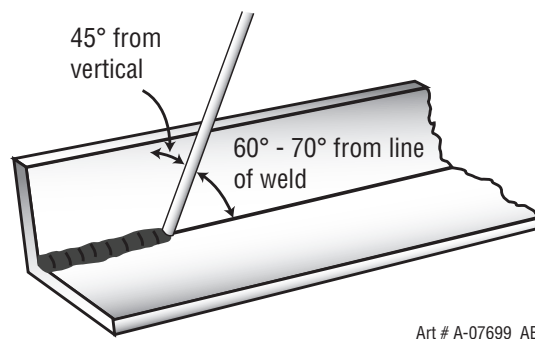
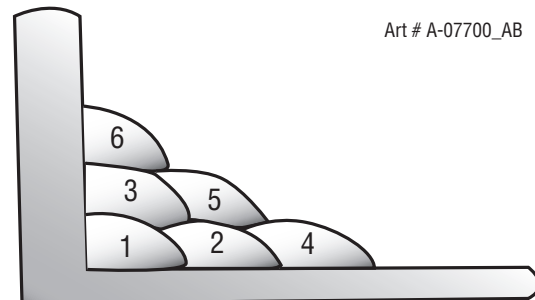

Figure 4-15: Electrode position for HV fillet weld
Figure 4-16: Multi-runs in HV fillet weld
A piece of angle iron is a suitable specimen with which to begin, or two lengths of strip steel may be tacked together at right angles. Using a 1/8" (3.2mm) E7014 electrode at 120 amps, position angle iron with one leg horizontal and the other vertical. This is known as a horizontal-vertical (HV) fillet. Strike the arc and immediately bring the electrode to a position perpendicular to the line of the fillet and about 45° from the vertical. Some electrodes require to be sloped about 20° away from the perpendicular position to prevent slag from running ahead of the weld. Refer to Figure 4-15. Do not attempt to build up much larger than 1/4" (6.4mm) width with a 1/8" (3.2mm) electrode, otherwise the weld metal tends to sag towards the base, and undercut forms on the vertical leg. Multi-runs can be made as shown in Figure 4-16. Weaving in HV fillet welds is undesirable.